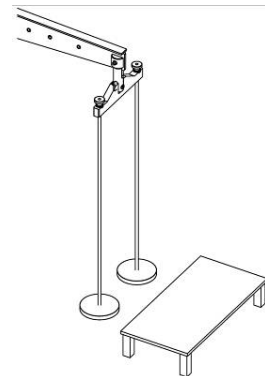

Figure 5. Hanger weight platform.
- 4.2 Place weight platform under hanger to be loaded, as shown in figure 5.
- 2.3 Place weight platform, figure 5, under hanger to be loaded.